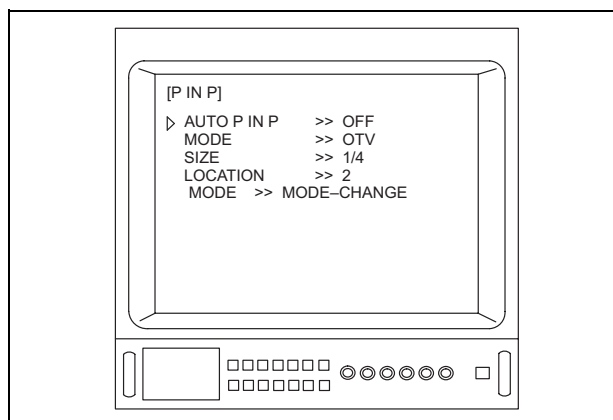

Figure 5.114
6. Depress the menu switches “◀” or “▶”, or the “↑/↓/←/→” key on the keyboard to move the arrow “▷” to “AUTO P IN P” (see Figure 5.114).
Depending upon the OTV-S7V's settings, the menus shown in Figures 5.114 and/or 5.115 may appear different from those displayed on the video monitor.